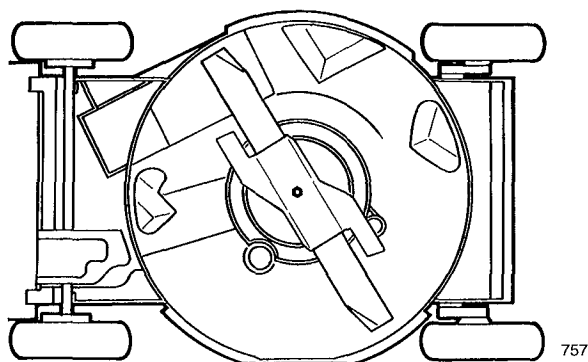

Figure 23
3. Tip mower on its left side (Fig. 23). Avoid rotating the blade because starting problems may result.